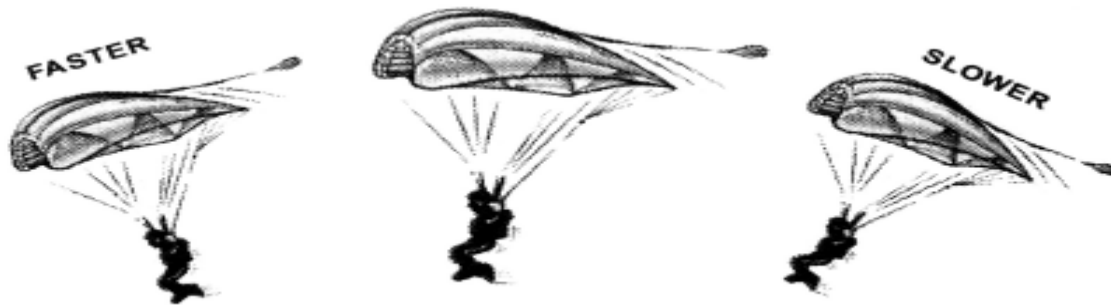

Figure 1
**Pitch = Angle of Attack = Airspeed Control (see Figure 1)**
Pitch is the relationship of the pilot and wing to the horizon. In other words, it describes the attitude tilt, fore and aft. Pitch can vary widely, depending on the flight mode. The range can span from pilot hanging directly below the parachute, way out in front, or well behind the center of gravity. The pitch has indirect consequences to airspeed and other aspect of your flight as well. (See Figure 1)
Note the nose-down attitude depicted in Fig 4. This demonstrates that that angle of attack is not the same as “Attitude” (orientation) with respect to the horizon, since this diagram displays a high angle of attack despite the nose-down attitude. Attitude with respect to the horizon is referred to as “Pitch” (Fig 1). In other words, just because you are in a front riser dive does not necessarily mean that you are at a low angle of attack. If your front risers are pulling up hard and you weight a ton, you are flying at a high angle of attack despite being in a dive.